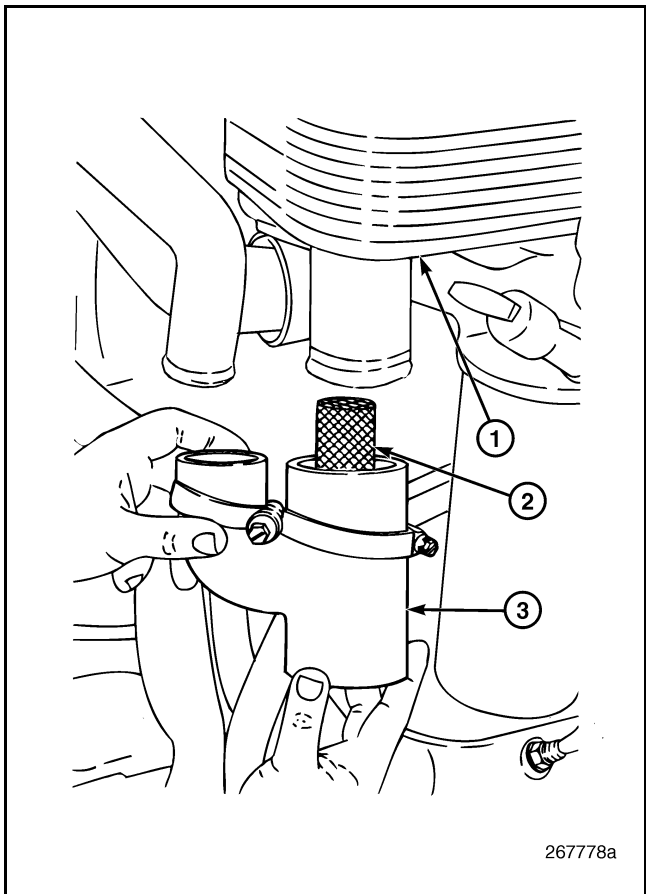

Figure 468 — Y-Hose, Coolant Screen and Oil Cooler Inlet
3. Loosen the clamp securing the Y-hose to the oil cooler inlet port and remove the hose and filter screen (Figure 468).